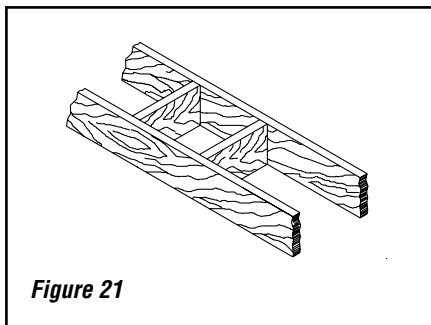

Figure 21
1. Cut and frame the holes in the ceiling, floor and roof where the chimney will pass (see **Figure 21**). Use a plumb-bob to line up the center of the holes. The sizes are indicated in **Table 2** for the floor and ceiling holes and **Table 3** (**Page 16**) for the roof holes.